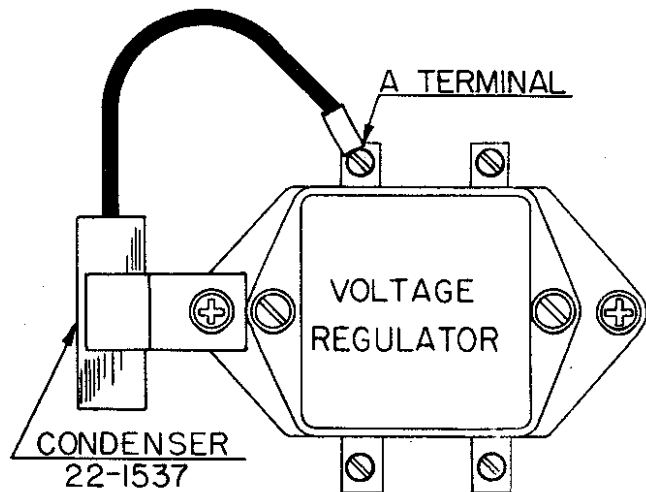

Fig. 4
1. Remove the mounting screw of the voltage regulator and under this screw mount the condenser No. 22-1537. Connect the lead to the voltage regulator "A" terminal. (Fig. 4.)